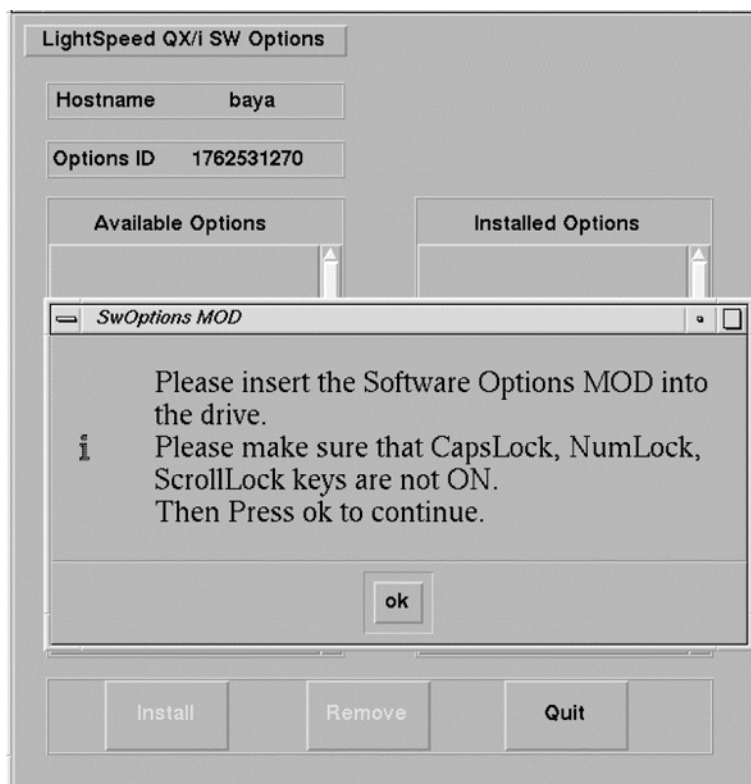

Figure 13-6 Options Window when First Selected
- 4.) Select INSTALL OPTIONS and click START. The console displays the Software Options window as shown in Figure 13-6. (Refer to the appropriate *Software Installation Procedures* manual for screen details.)
- c.) Returns to the Software Option window shown in Figure 13-6.